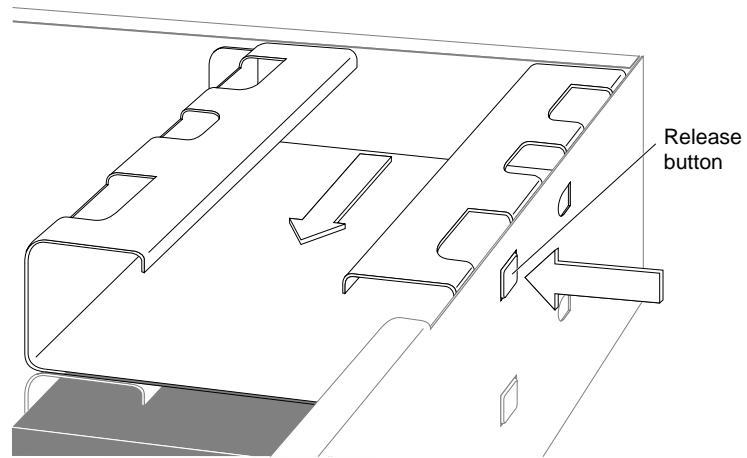

Figure 5-2 Removing the Drive Bracket
6. Remove the empty drive bracket by pressing the release button that protrudes through the side of the chassis and pulling the bracket toward you, as shown in Figure 5-2.